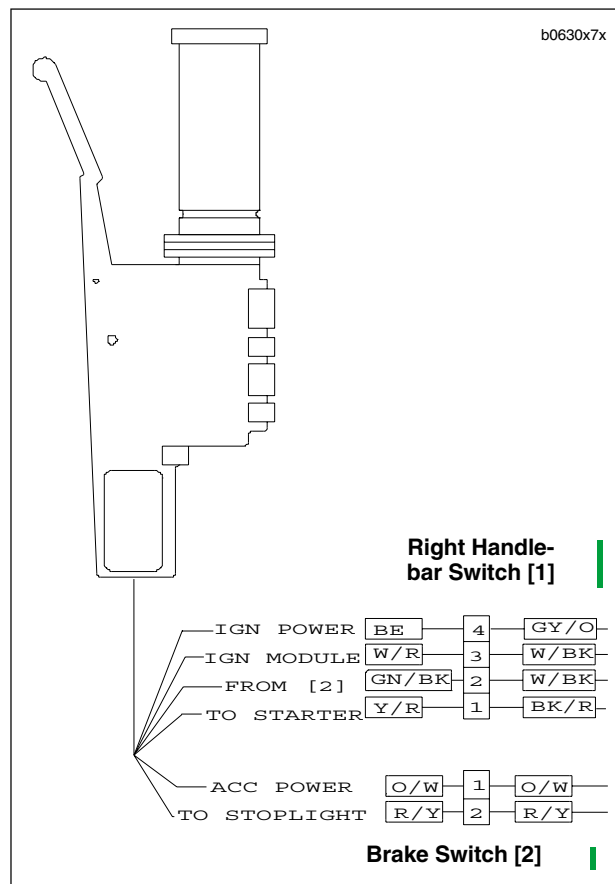

Figure 7-69. Right Handlebar Switch Connection
4. See Figure 7-69. Cut as many cable straps as necessary to access right handlebar switch connector [1] along right side frame tube. Detach connector [1] from wiring harness.
3. See Figure 7-69. Route switch housing wiring harness between front forks and along right side frame tube. Attach connector [1] and, if necessary, connector [2] to wiring harness. Fasten wiring harness to frame with **new** cable straps.